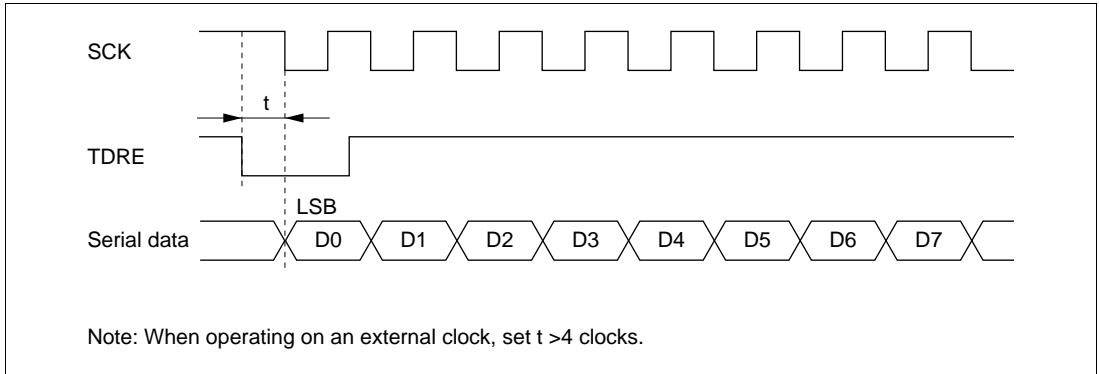

Figure 12.22 Example of Clocked Synchronous Transmission by DTC
- When an external clock source is used as the serial clock, the transmit clock should not be input until at least 5 ϕ clock cycles after TDR is updated by the DTC. Misoperation may occur if the transmit clock is input within 4 ϕ clocks after TDR is updated. (Figure 12.22)